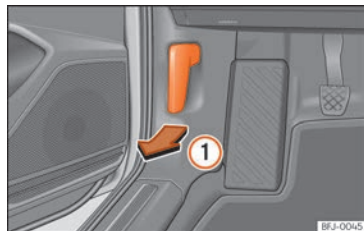

Fig. 220 Release lever in the driver's footwell area.
- Open the door and pull the lever under the dashboard » **Fig. 220 ①**.